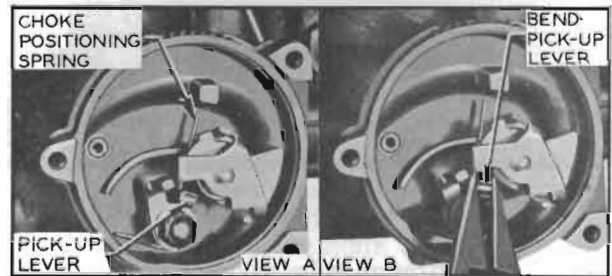

Figure 3-66—Choke Spring Pick-Up Lever Adjustment
sion and causes the choke valve to partially open. See figure 3-66.
5. Turn throttle stop screw in 1 additional turn (7 turns in from fully closed throttle position.) At this throttle position, the choke positioning spring pick-up lever should just contact the choke positioning spring. If lever is not just at the point of contact, adjust by bending lever with needle-nose pliers. See figure 3-66.